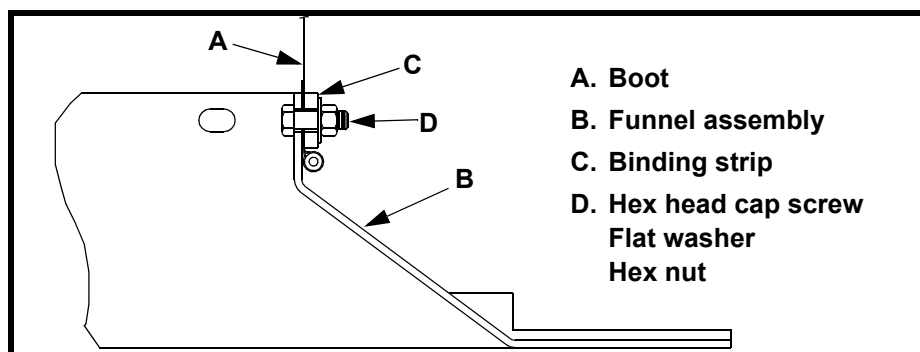

Figure 2. Attaching Boot to Funnel Assembly
3. Match holes in top end of boot (A, Figure 2) with holes in funnel assembly (B) and binding strip (C), and attach boot to outside edge of funnel.